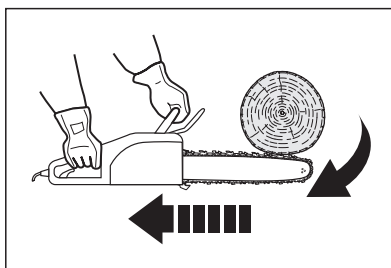

Fig. 8e
2. Pinching the saw chain (3) along the top of the guide bar (4) may push the guide bar rapidly back toward the operator (Fig. 8e).